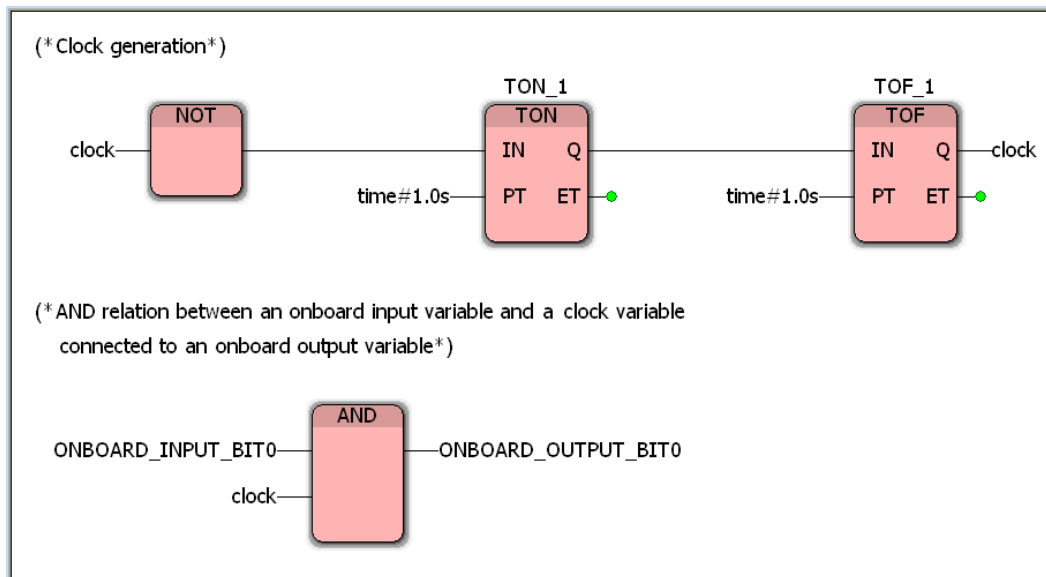

Figure 5-39 Generating a fixed clock and displaying it at a controller output
To enter the program code in the worksheet according to Figure 5-39, carry out the following steps:
- Establish all necessary connections between variables and function blocks and between function blocks according to Figure 5-39 on page 58.